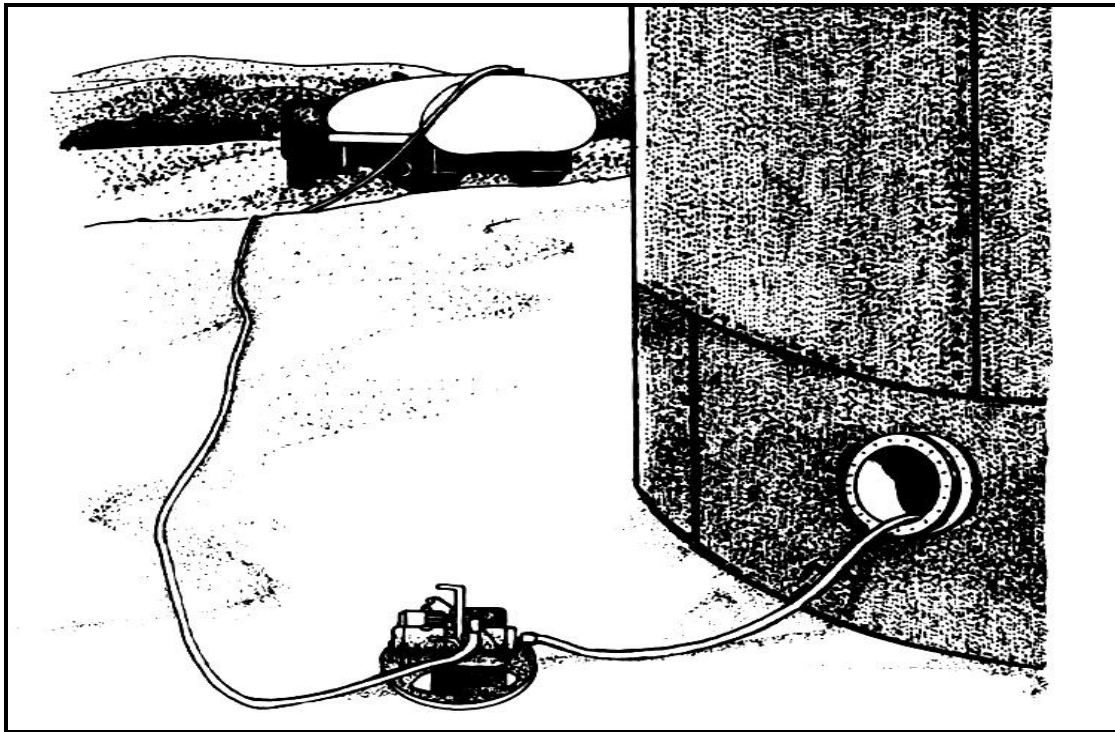

Figure 12-19. Pumping sludge to tank vehicle
- Lay a suction hose in the tank and use a pumping assembly to pump liquid sludge to a tank vehicle as shown in Figure 12-19. If a vacuum truck is being used, the pumping assembly is not necessary.